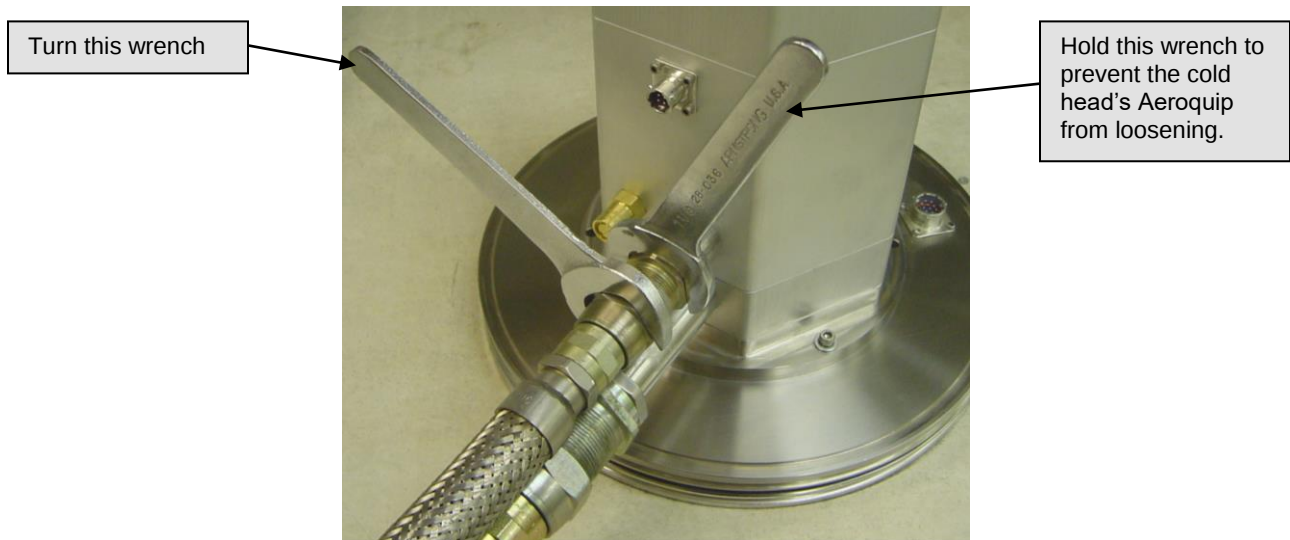

Figure 7-3: Disconnecting flex lines from a cold head
- 8) Disconnect the Aeroquips® on the high and low-pressure fittings on the cold head by turning the flexible line's Aeroquip® counter-clockwise with one wrench while holding the cold head's Aeroquip® with the other wrench. See Figure 7-3.